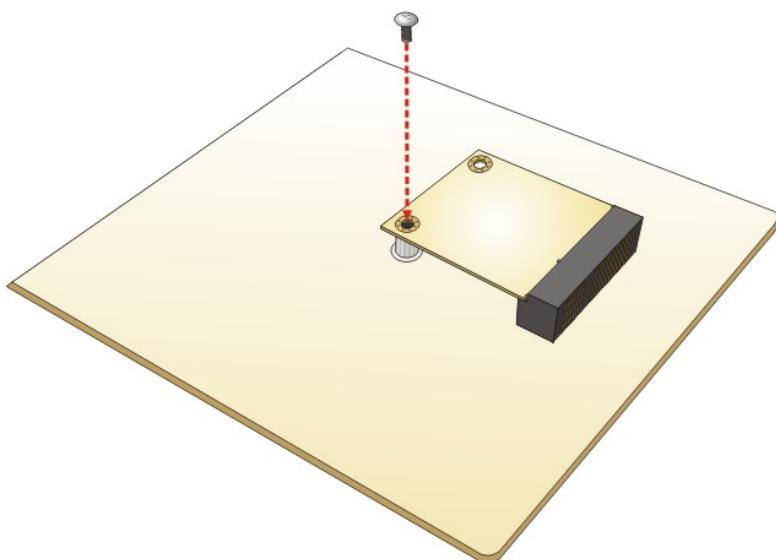

Figure 4-7: Securing the iRIS-1010 Module
Step 4: Secure the iRIS-1010 module. Secure the iRIS-1010 module with the retention screw previously removed (Figure 4-7).